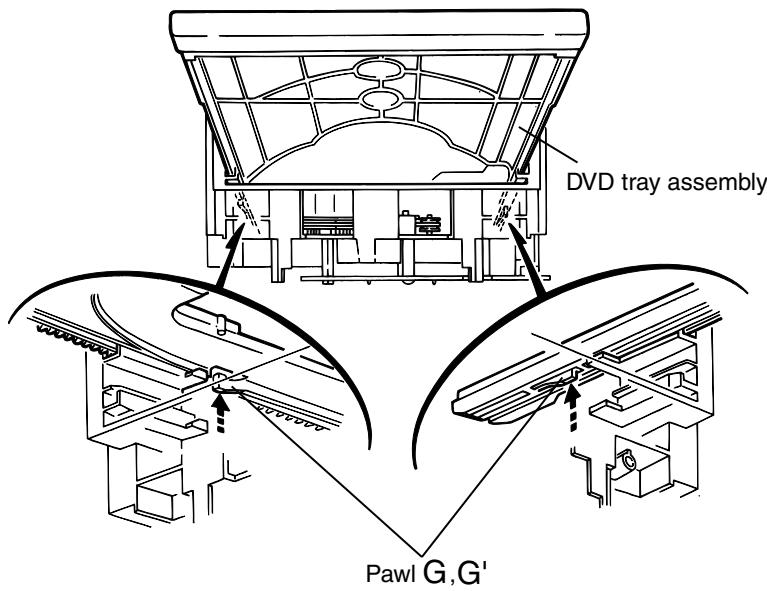

Fig.9
15. At the position where the DVD tray assembly has stopped, pull out the DVD tray assembly while pressing the two pawls "G and G'" on the back side of DVD tray assembly(See Fig.9). In this case, it is easy to pull out the assembly when it is pulled out first from the stage DVD tray assembly.